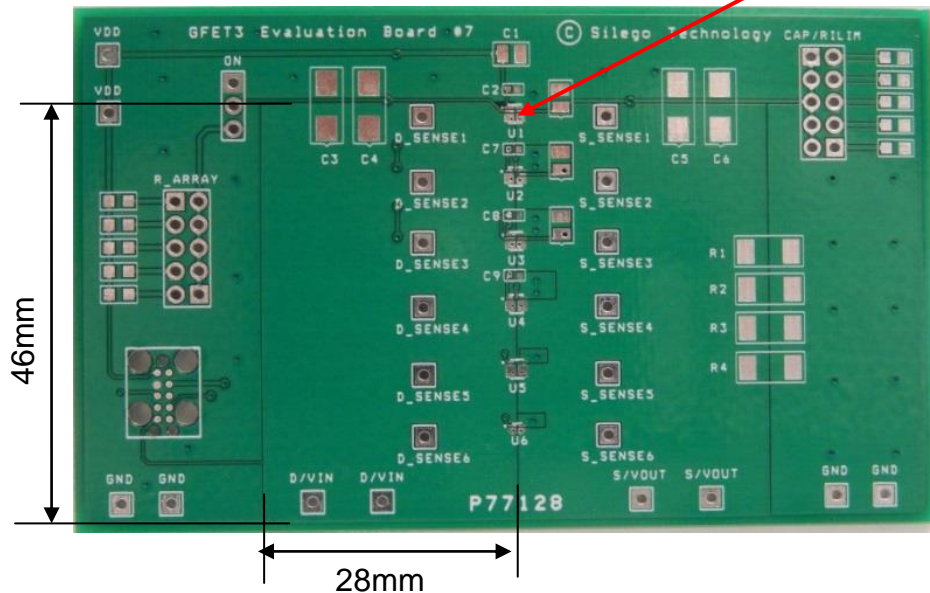

Figure 3. SLG59M1493Z Evaluation Test Board
2.3. The D/VIN and S/VOUT pins carry significant current. Please note how the D/VIN and S/VOUT pads are placed directly on the power planes in Figure 3, which minimizes the $R_{ds(ON)}$ associated with long, narrow traces. The D/VIN, S/VOUT and GND pins dissipate most of the heat generated during high-load current condition. The layout shown in Figure 3 is illustrating a proper solution for heat to transfer as efficiently as possible out of the device.